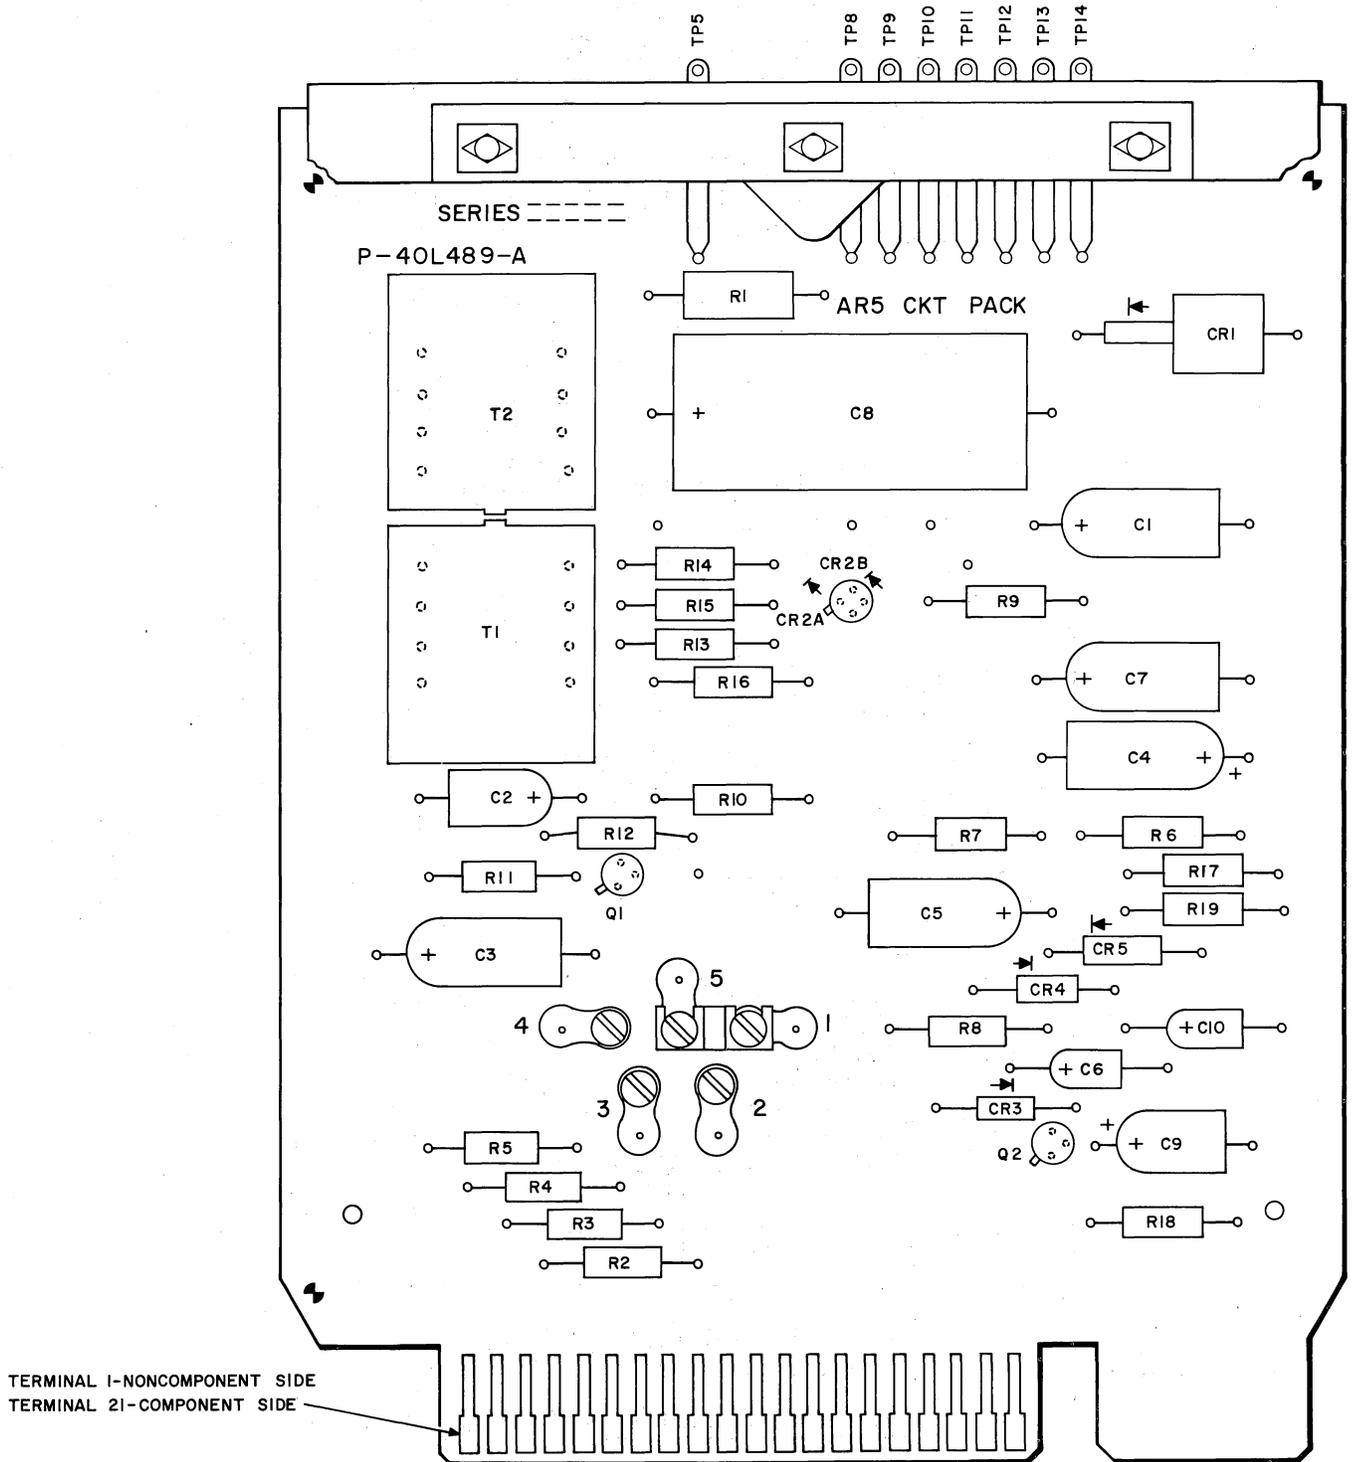

Fig. 5—Circuit Pack AR5 (AGC1) Board
carefully remove the AR5 circuit pack from location F01. The AR5 AGC-1 board is illustrated in Fig. 5 and the attenuation provided by loss pads is provided in Table C. Condition the AGC-1 board as specified on the service order. After the circuit board is properly conditioned, carefully return it to the original location and remove the extracting tool.
3.26 Remove the circuit pack retaining bar from the "F" nest. Use the extracting tool and carefully remove the AR5 circuit pack from location F01. The AR5 AGC-1 board is illustrated in Fig. 5 and the attenuation provided by loss pads is provided in Table C. Condition the AGC-1 board as specified on the service order. After the circuit board is properly conditioned, carefully return it to the original location and remove the extracting tool.